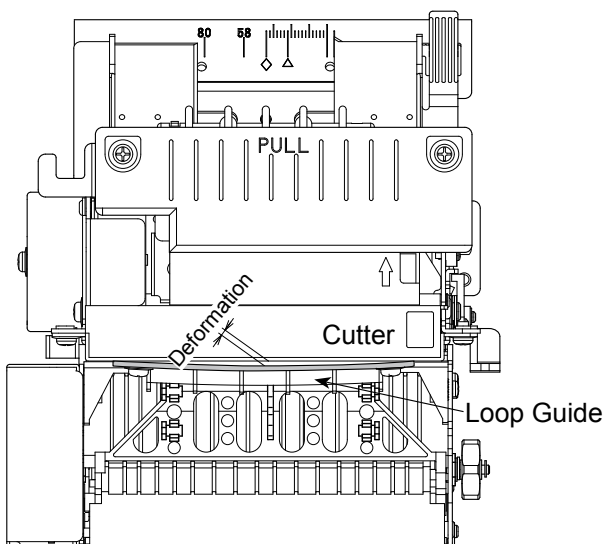

Fig. 3
- 2) It is possible, due to sudden environmental changes, that a deformation of the Loop Guide may occur (see Fig. 3), to remove the deformation, reposition the Loop Guide by: